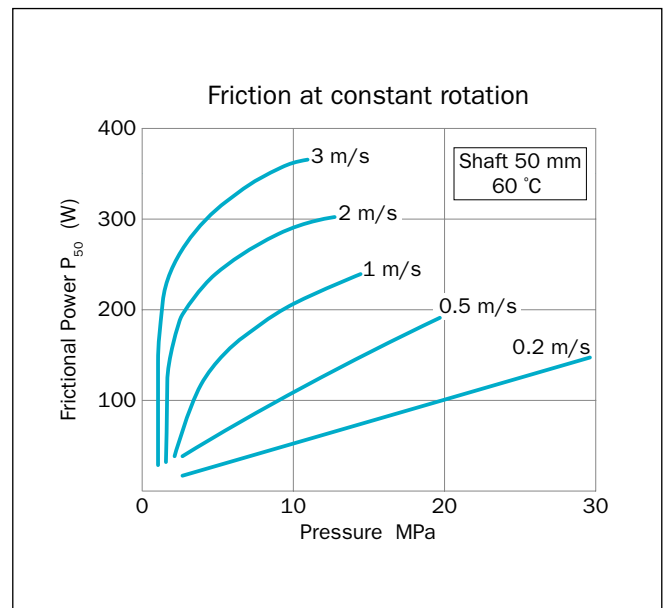

Figure 156: Frictional power for Turcon® VL Seal® F
Guide values for the frictional power (P) can be determined from the graph in Figure 156. They are shown as a function of the sliding speed and operating pressure for a shaft diameter of 50 mm with an oil temperature of +60 °C. At higher temperatures, these application limits must be reduced.